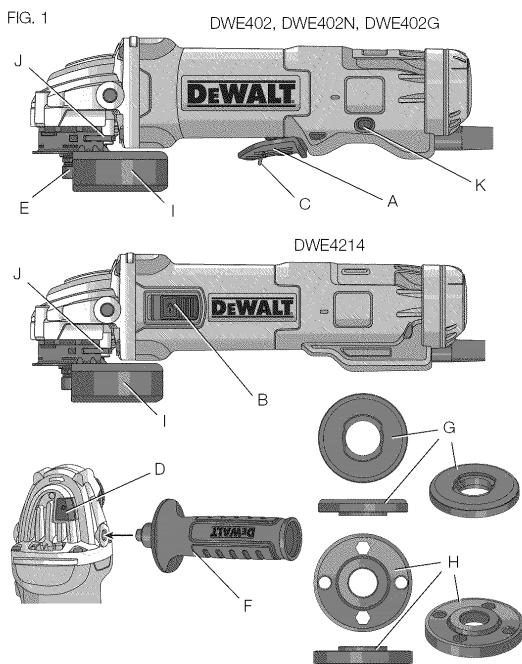

FIG. 1 DWE402, DWE402N, DWE402G
### DESCRIPTION (Fig. 1)
**INTERRUPEUR À PALETTE (FIG. 1, 4)